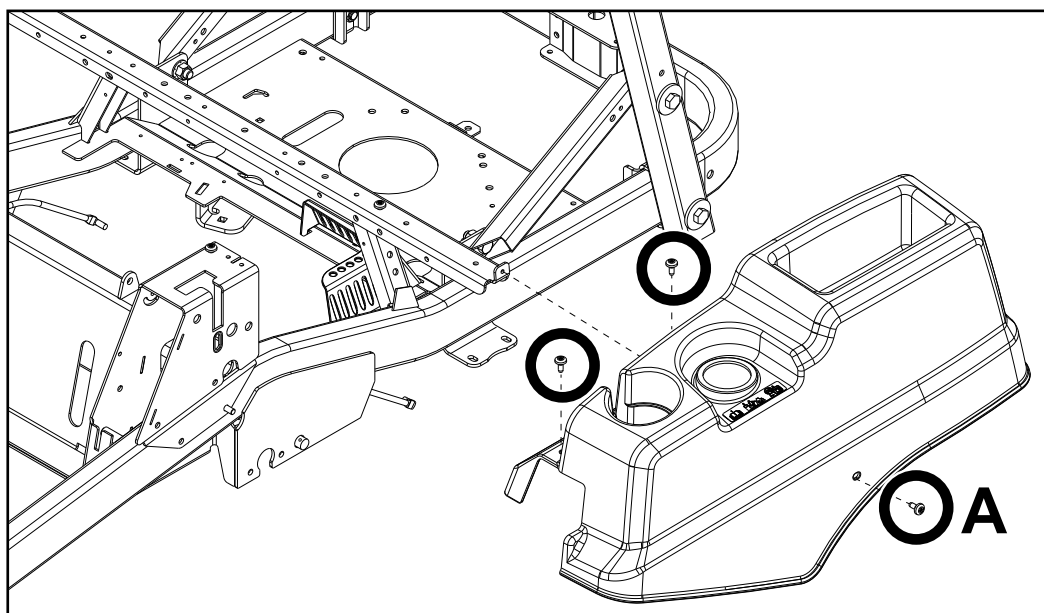

Fig. 013
5. Install the (3) screws (A) that secure the fender to the unit frame and torque to specification 7 ft-lbs. (9 Nm).
6. Connect battery terminals and lower seat (Fig. 013).